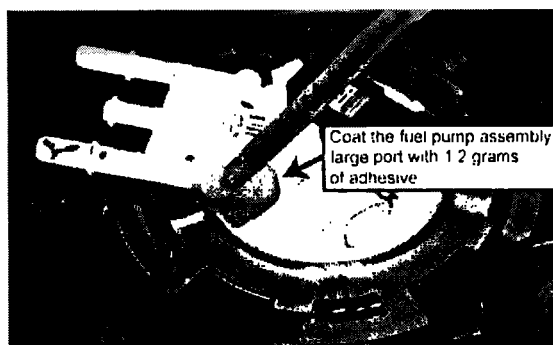

figure 7
7. Apply 1.2 grams of adhesive liberally to completely cover the Fuel Pump Feed Port of the fuel pump assembly as shown in **figure 7**.